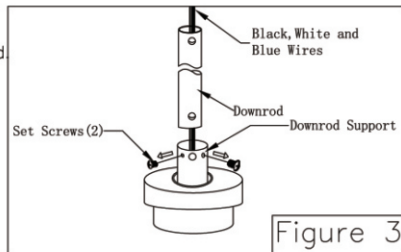

Figure 3
- Loosen the two set screws in the down rod support of the motor assembly. Route the black, white and blue wires through the down rod (Figure 3)